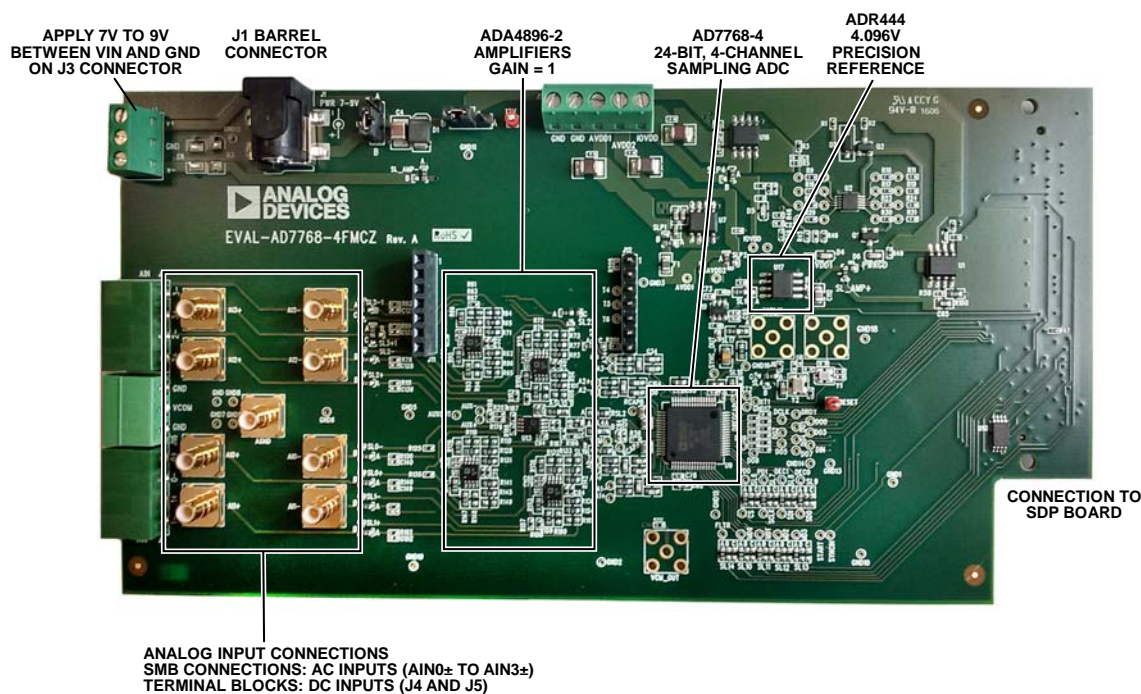

Figure 1. EVAL-AD7768-4FMCZ Evaluation Board
2. Connect the SDP-H1 board to the evaluation board (unpowered). Figure 1 illustrates the connection: J4 of the SDP-H1 board adapts to the receiving socket on the EVAL-AD7768-4FMCZ printed circuit board (PCB).
As shown in Figure 1, the $A_{IN}0\pm$ to $A_{IN}3\pm$ analog inputs are accessible through either the SMBs or the terminal blocks.